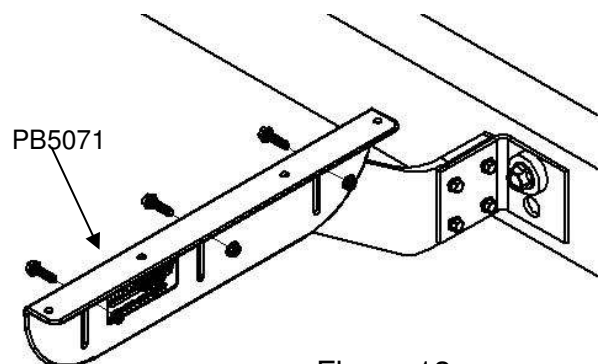

Figure 13
- a. In these cases use the plastic angle (PB5071) to connect the fenders to the center bracket assembly (Figure 13).